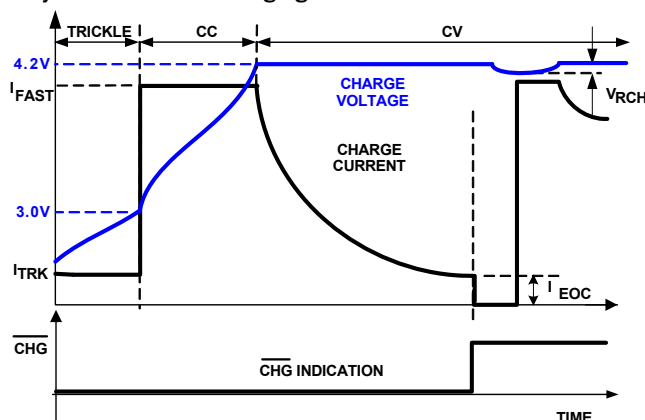

FIGURE 29. TYPICAL CHARGING CYCLE FOR $CONT = L$
The charger function is similar to other Li-ion battery chargers, i.e., it charges the battery at a constant current (CC) or a constant voltage (CV) depending on the battery terminal voltage. The constant current I_{FAST} is set by the external resistor R_{IREF} . Depending on the combination of the AC/USB and the MODE pin status, the actual charge current may be reduced by the input current limit. When the battery voltage reaches the final voltage of 4.2V, the charger enters the CV mode and regulates the battery voltage at 4.2V to fully charge the battery without the risk of overcharging. Upon reaching an end-of-charge (EOC) current, the \overline{CHG} will turn to high impedance to indicate a charge complete state and if $CONT$ is low, Q2 will be turned off to terminate charging. Figure 29 shows the typical charge profile with the EOC recharge events when $CONT$ is low.